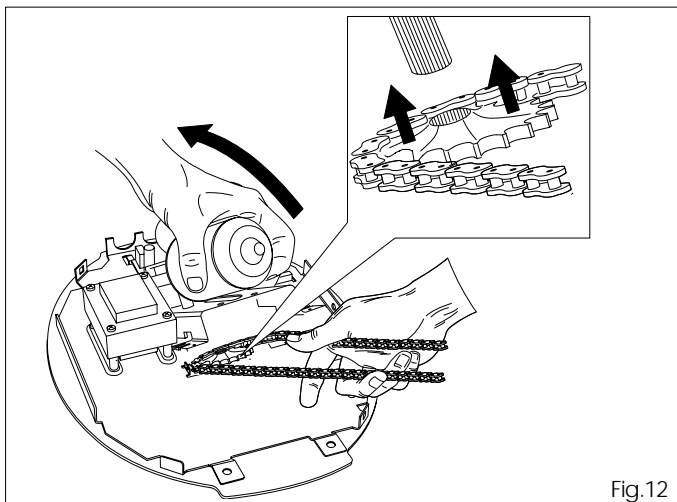

Fig.12
5.7 Lift up the motor unit, taking care not to damage the electronic equipment, couple the pinion gear to the chain and fit it in the motor shaft (fig.12).